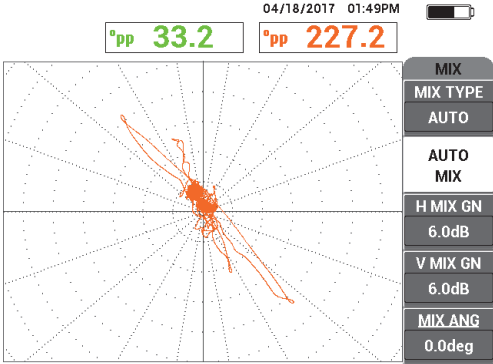

Figure 5-204 The scan of entire tube length after AUTO MIX
- ◆ Place the probe in a defect-free area of the calibration standard near the thru-wall flaw, press the NULL foot switch, and scan the entire length of tube. The large indication of the support ring should be minimized, as shown in Figure 5-204 on page 273.